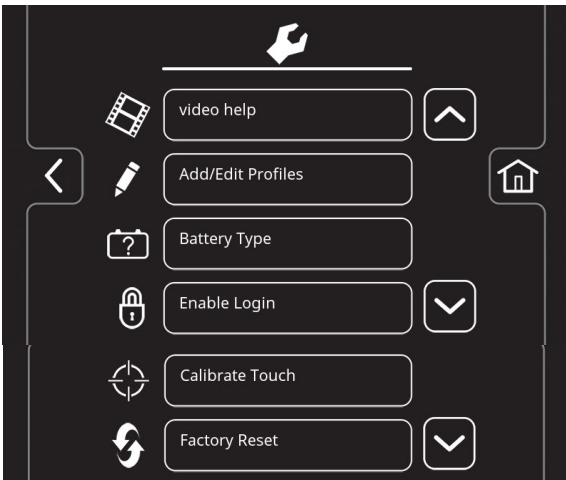

FIG. 176
- The machine's setting screen provides access to the following menu (Figure 176).